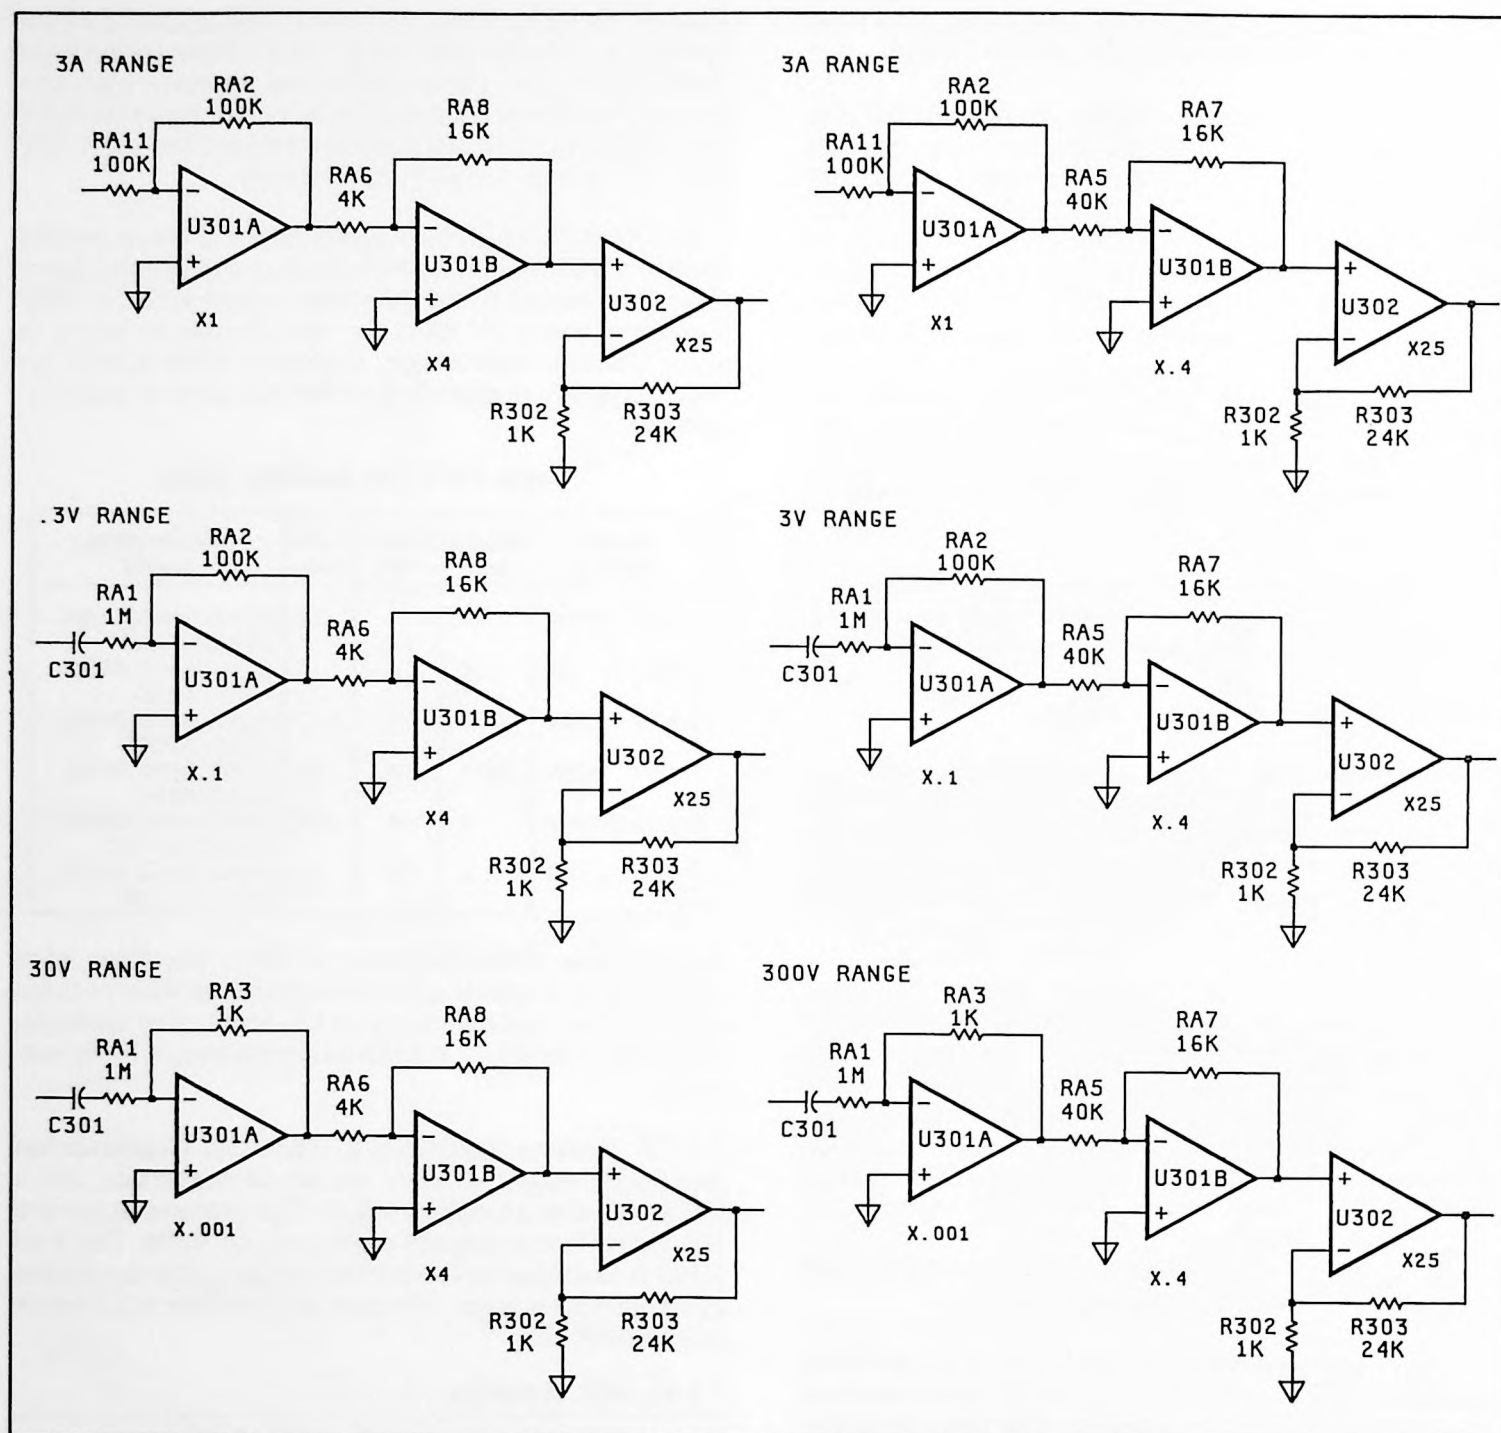

Figure 7-F-5. AC Gain Configurations
**7-F-34. Dual-Slope Conversion.** In dual-slope conversion, an integrator capacitor charges for a fixed time period (as shown in Figure 7-F-6), which is done during runup. The charging rate and the resultant amplitude of the charge is proportional to the voltage applied to the integrator. The integrator capacitor is then discharged at a fixed rate determined by a known reference voltage and is done during rundown. Since the discharge rate is constant, the discharge time is proportional to the amplitude